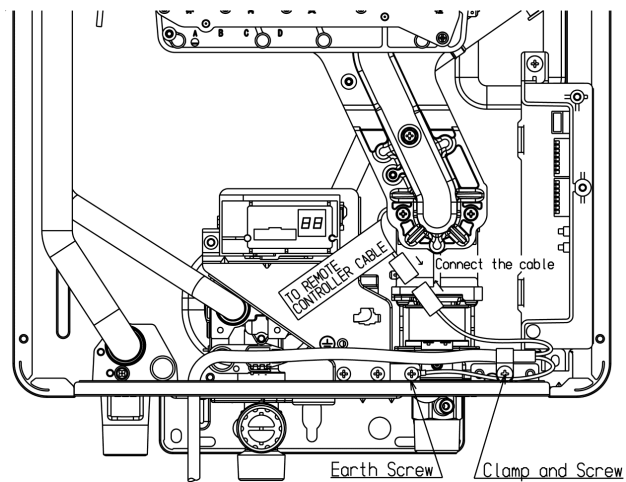

Fig.5
5. Connect the cable of the PCB (Fig.5).